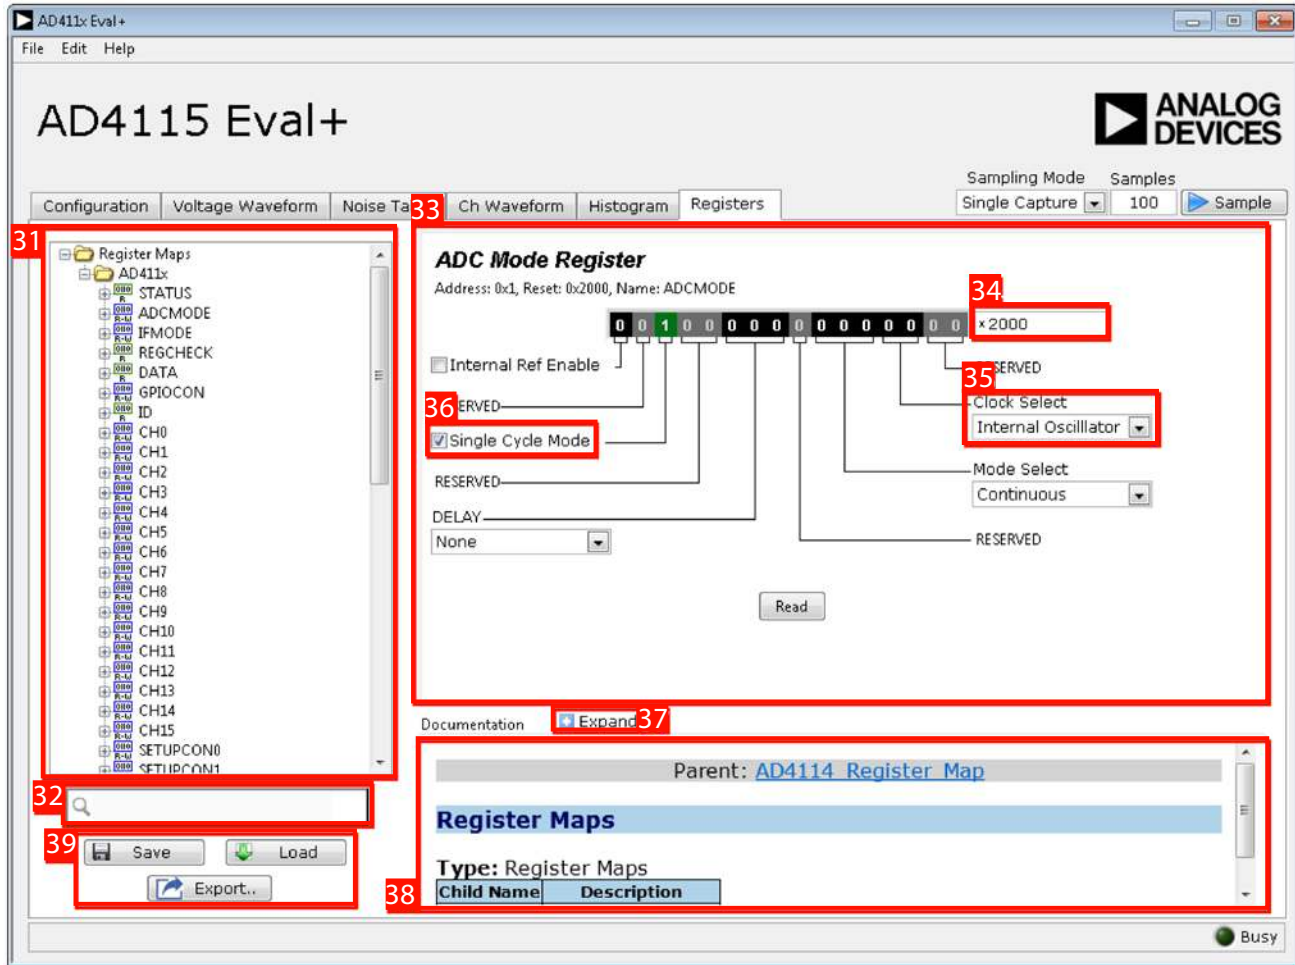

Figure 20. Registers Tab
**Save** and **Load** (Label 39 in Figure 20) allow the user to save the current register map setting to a file and to load the setting from the same file, respectively. The **Export** button exports the register settings as a header file that is compatible with the AD411x No operating system software drivers. An example showing how this configuration file can be used with the AD411x No operating system software drivers to enable rapid prototyping can be found at the AD717x/AD411x Mbed Example site.
Click the **Register Maps** nested list (Label 31 in Figure 20) to show each register. Click the expand button next to each register to show the bit fields contained within that register.
The search box (Label 32 in Figure 20) allows the user to search the register maps list for any register or bit field. Entering a value into this control filters the register list.
The register control area (Label 33 in Figure 20) allows the user to change the individual bit of the register selected in the register map list by clicking the bits in the register control or by programming the register value directly into the value control box (Label 34 in Figure 20). The register and bit controls also show all bit fields for the selected register. Change the values by using the **Clock Select** dropdown menu (Label 35 in Figure 20) or by selecting or clearing the **Single Cycle Mode** check box (Label 36 in Figure 20).
The **Documentation** area (Label 38 in Figure 20) contains the documentation for the register or the bit field selected. This field can be updated by selecting a register or bit field in the register list, or by hovering over the register or bit field in the register list or register control. To display the **Documentation** area in a separate window, click **Expand** (Label 37 in Figure 20).
**Save** and **Load** (Label 39 in Figure 20) allow the user to save the current register map setting to a file and to load the setting from the same file, respectively. The **Export** button exports the register settings as a header file that is compatible with the **AD411x no operating system software drivers**, which allows the user to quickly save their preferred configuration for prototyping use.